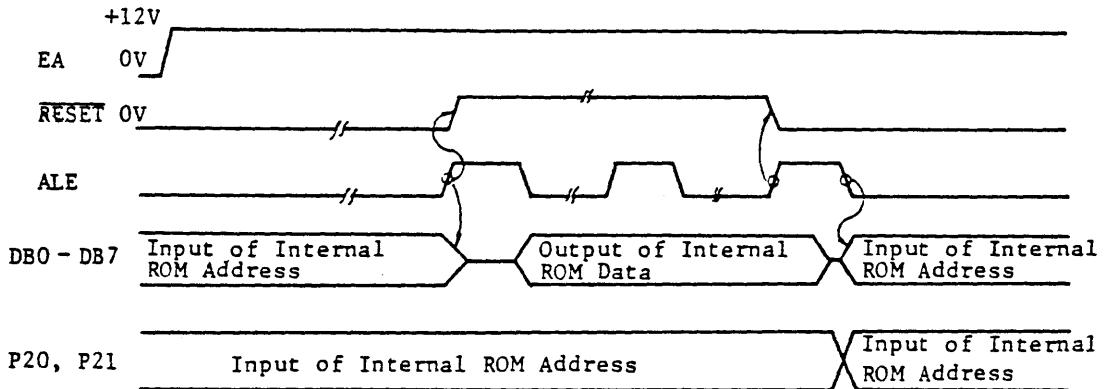

Fig. 7 Timing of Reading Internal Program Memory
- . Figure 7 illustrates the timing diagram for this operation.
(5) Single Step Operation.